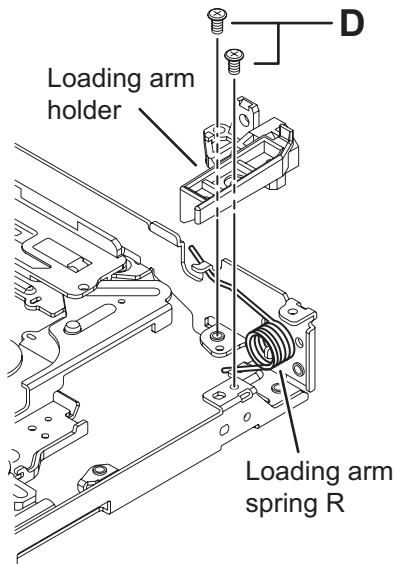

Fig.11
3.2.5 Removing the Loading arm holder. (See Fig.11)